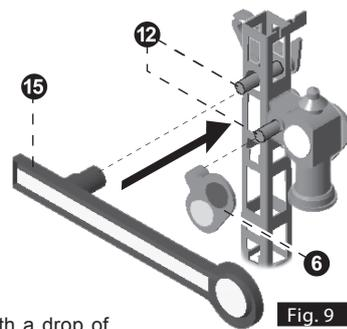

Fig. 9
13. Now the signal arm (15) is being mounted on the axle which is sticking out at the front side of the mast [Fig. 9]. The positioning mechanism is now also being fixed. The position of the signal arm does not matter at this time, its exact arrangement will be done later.
15. The lantern-screen (6) is now being attached to the axle of the positioning mechanism which is now sticking out at the front side of the lantern [Fig. 9].
17. The post-plate (16) is now being inserted into the matching holes at the front side of the mast. Fix it with a drop of superglue.